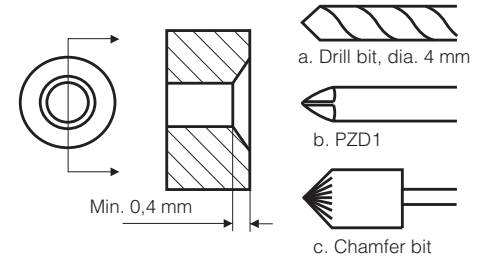

Figure 2: Principle for penetration
- Drill a dia. 4 mm bit (figure 2.a) through the PCB without drilling through the plastic cover itself.
- Use a pozidrive size 1 bit (figure 2.b) to perform the perforation.
- Use a chamfer bit (figure 2.c) to penetrate the print island on the top side of the PCB.